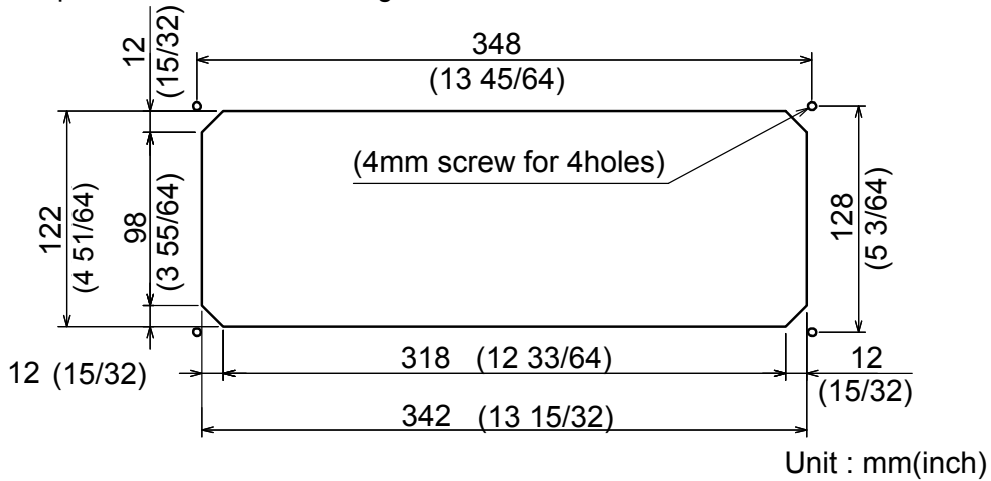

Figure 2.13 Diagram of processing nut-holes for mounting an Operation unit
- (1) Cut an opening with the size as shown in Figure 2.13 on the side for mounting a Display unit on the panel.
- (2) Mark the place of holes for mounting.